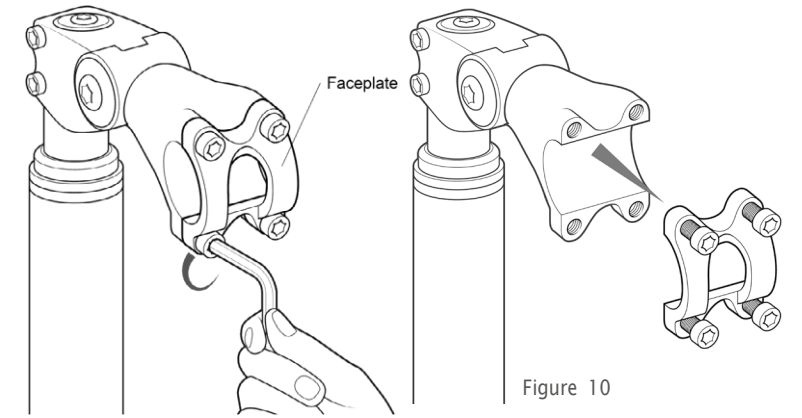

Figure 10
4.4 To install the handlebar, first the faceplate must be removed as shown in Figure 10. Unscrew the 4 faceplate bolts all the way, and be careful not to drop them!